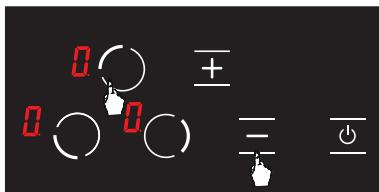

Figure 22
2. Press upper left hob selection key (\textcircled{O}) and minus key ($\textcircled{-}$) simultaneously. (see Fig. 22) You shall hear a short warning signal at this time. Then, remove your fingers from the stove control panel.